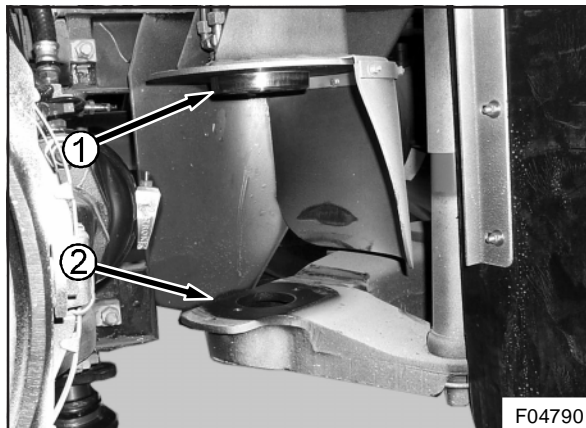

Figure 7 : Top mounting plate (1) and C-beam mounting surface (2) - (tag axle side)
3. Thoroughly clean the bellows mounting plate and C-beam mounting surface (see Figure 7).